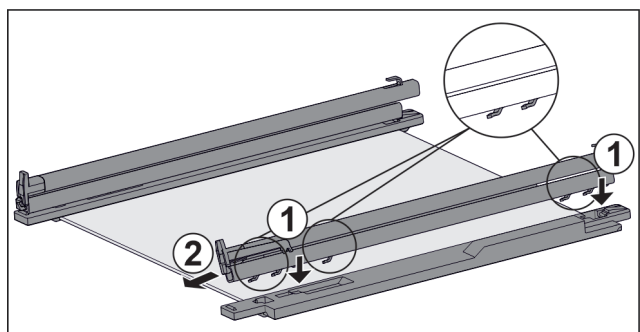

Fig. 202 Glass shelf with rails and retaining parts
- ▶ Place rail hooks onto the openings of the **left** retaining part. *Fig. 202 (1)*
- ▶ Push rail forwards. *Fig. 202 (2)*
- ▶ Place rail hooks onto the openings of the **right** retaining part. *Fig. 202 (1)*